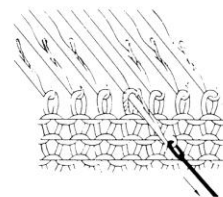

Fig.50-2
- b) Draw the needle towards you with the tool until the stitch passes behind the latch. (Fig.50-2)